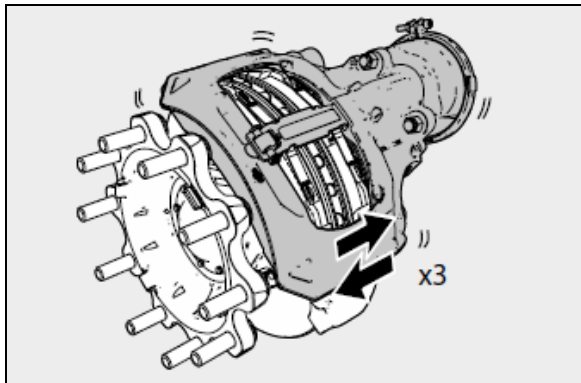

FIGURE 82: PUSH CALIPER THREE TIMES IN AXIAL DIRECTION
6. Push and pull caliper three times in axial direction to assess any existing air gap (see Figure 82). If no movement is possible, clean the disc brake and if necessary, replace the bearings. Once movement is obtained, continue as follows: